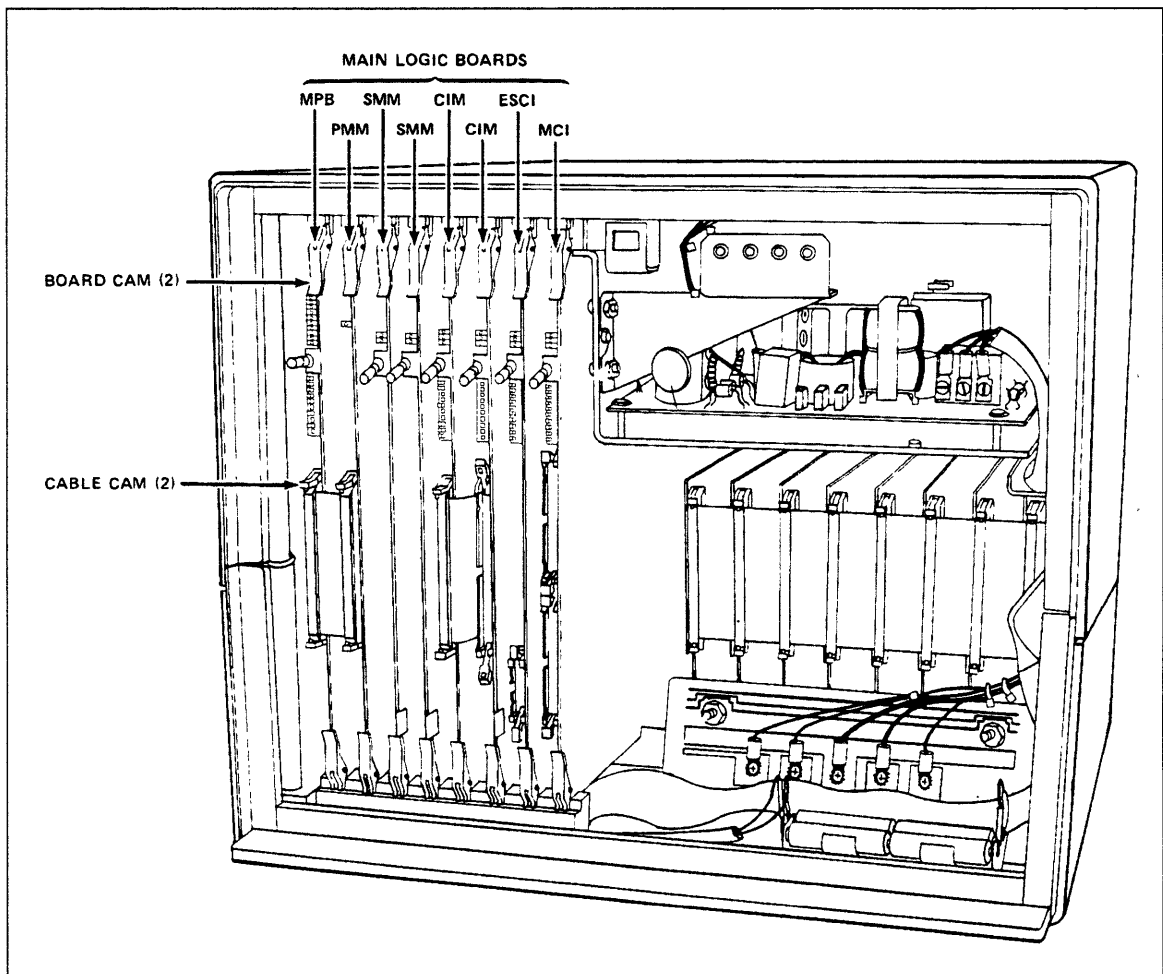

Figure 9-2. Main Logic Boards in a Typical DI (Front View)
The main logic boards include those shown in figure 9-2. You can reach all of them by opening the DI front panel.
3. Disconnect all cables attached to front of main logic board being replaced (figure 9-2).
4. Remove board by rotating upper and lower cams on board being replaced (figure 9-2).